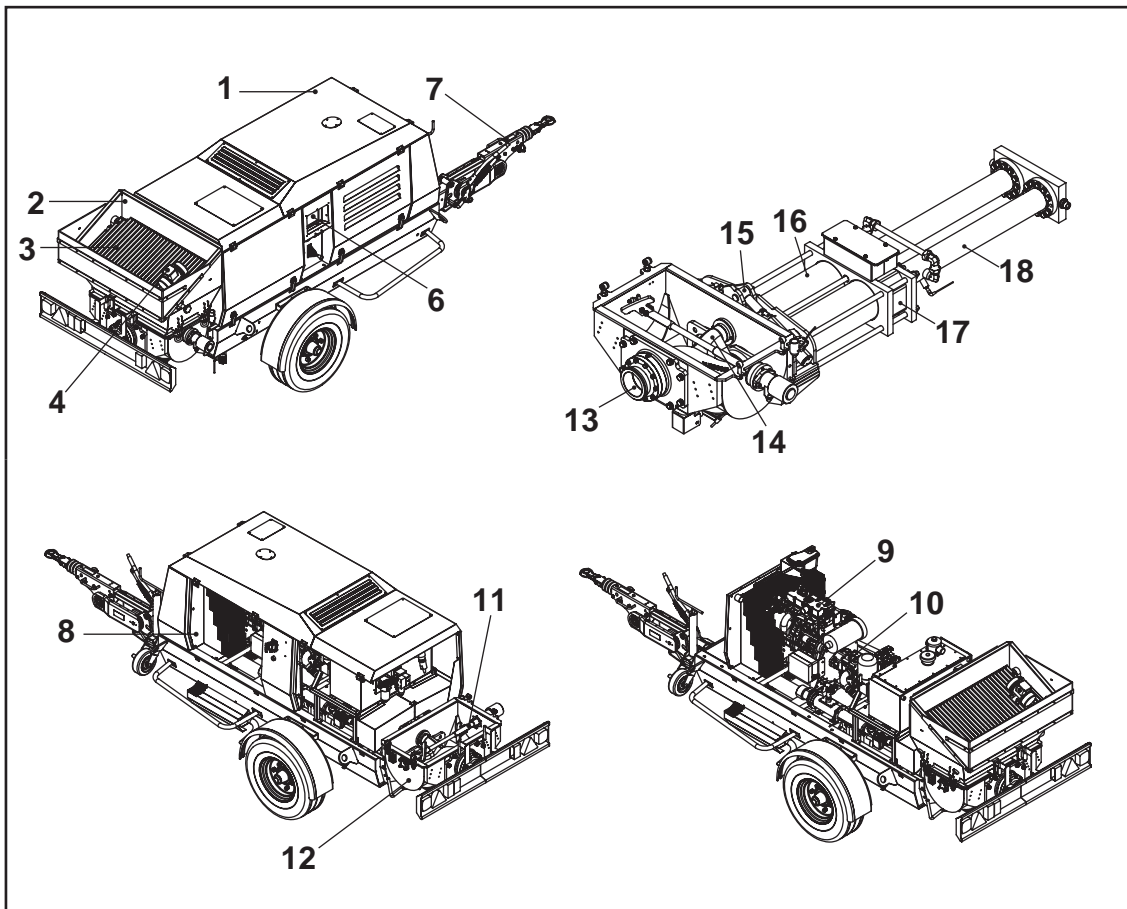

FIG.03
- FIG.03-REF.1 - Bodywork
- FIG.03-REF.2 - Upper hopper
- FIG.03-REF.3 - Grid
- FIG.03-REF.4 - Vibrator
- FIG.03-REF.6 - Control board
- FIG.03-REF.7 - Tow
- FIG.03-REF.8 - Exchanger
- FIG.03-REF.9 - Engine
- FIG.03-REF.10 - Hydraulic pump unit
- FIG.03-REF.11 - Mixer
- FIG.03-REF.12 - Lower hopper
- FIG.03-REF.13 - Delivery flange
- FIG.03-REF.14 - S Valve
- FIG.03-REF.15 - S Valve exchange jack
- FIG.03-REF.16 - Pumping barrel
- FIG.03-REF.17 - Water tank
- FIG.03-REF.18 - Hydraulic pumping cylinder